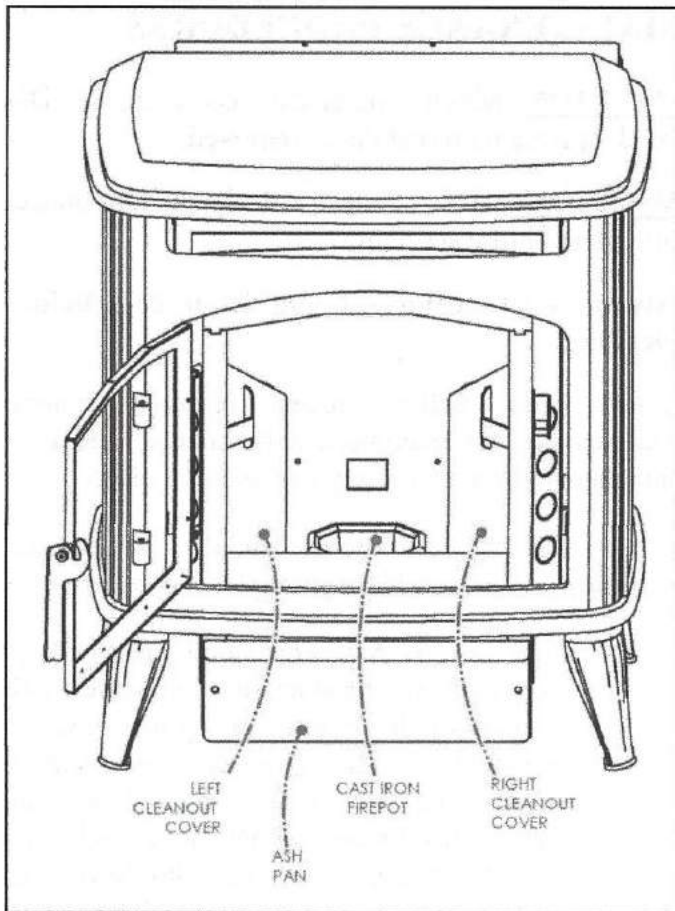

FIGURE 12
- a. Open door and remove clean out cover screws. To remove, simply unscrew and lift out from each side (see FIGURE 12). Clean one side at a time. With covers removed, leave the door open and push the "Clean" button. Let heater run 30 seconds, push to "Off," and replace cover. Remove the remaining clean out cover and repeat procedure for other side.
around and below the pot should be checked every five or six days depending on how many hours a day the heater is used and the quality of the pellets being burned. Remove the fire pot holder for thorough cleaning (see FIGURE 12).
Solution: When the pellets are overfeeding, it usually means that the air flow has been reduced. Check the fire pot air intake holes to be sure they are clear. Check to see if fire pot was properly seated in the pot tray. If low-grade grade pellets are used and clinkers (fused ash and dirt) form in the bottom of the fire pot and chock the air intake, consider changing the brand of pellets to one that burns cleaner. Ensure the fire is out before removing and cleaning the fire pot. Never vacuum out the heater when the heater is in operation. The hot ashes can lodge in your vacuum cleaner and cause a fire Clean the heat exchanger manifold (see FIGURE 12) regularly to ensure a good air to fuel ration, thus allowing the heater to "breathe" properly. Check the tee and vent pipe to ensure they are not clogged and full of ash.